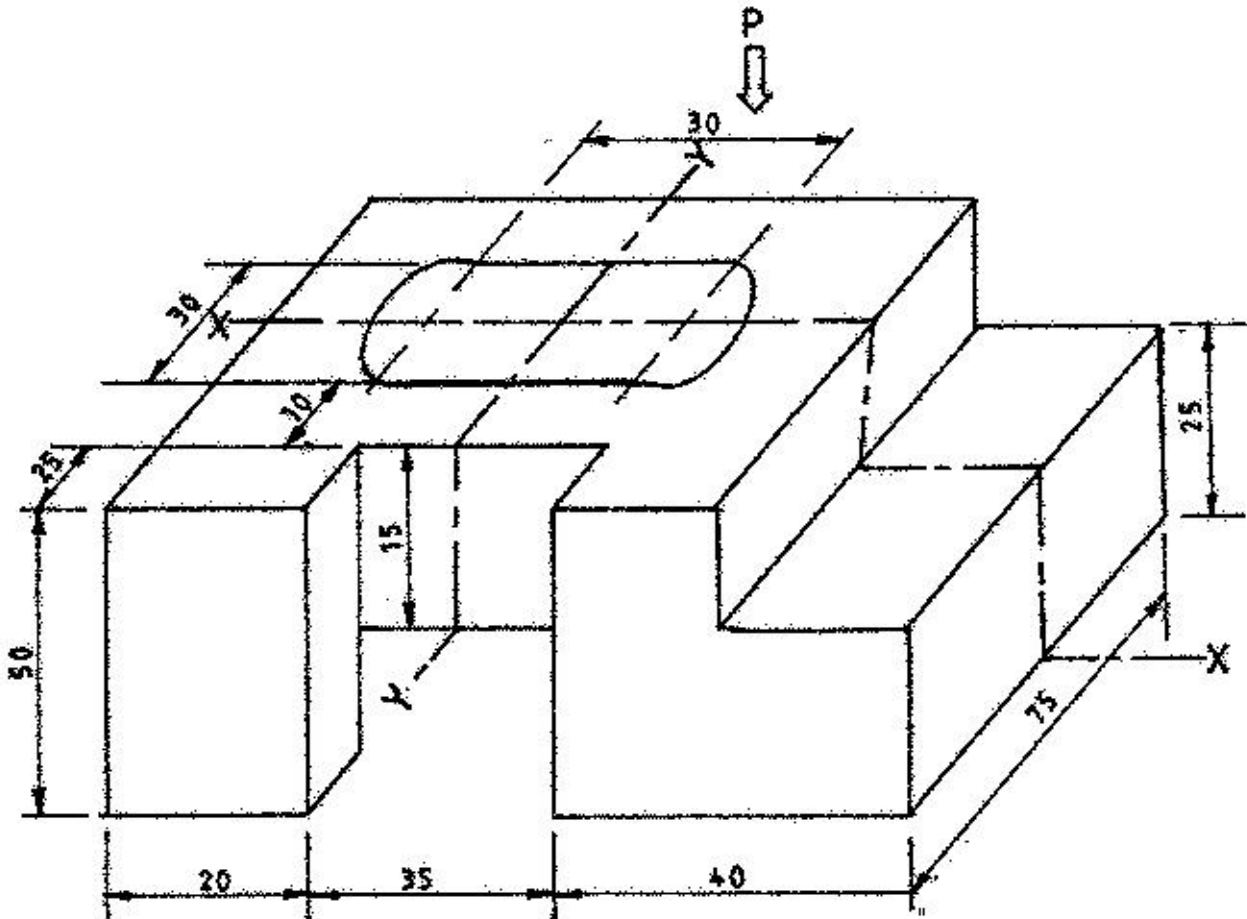

Fig. 7
8. Figure 7 shows a bracket. Draw the full size of the following in 1st angle projection ;